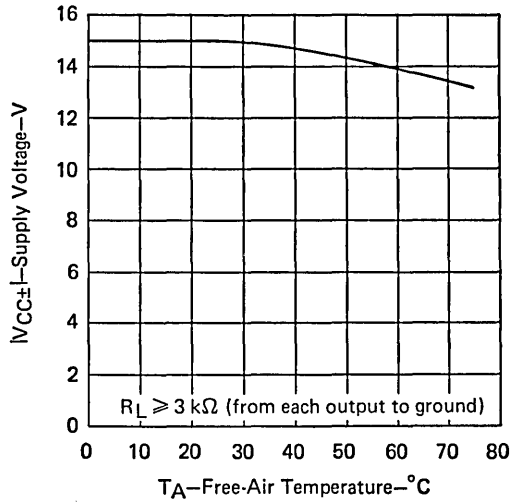

FIGURE 6
2. For operation above 25°C free-air temperature, refer to the Maximum Supply Voltage Curve, Figure 6, and the Dissipation Derating Curves in the Thermal Information Section, which begins on page 21. In the J package, SN75188 chips are glass-mounted.